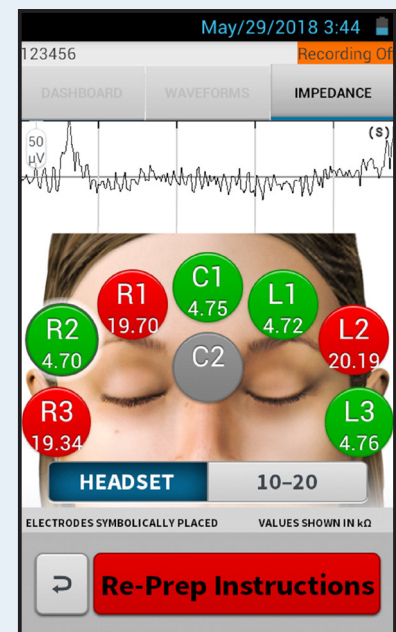

Figure 4-18:
- Red - The impedance value is unacceptably high (≥ 10 kΩ). Re-prepping is required before recording can continue. If red, then re-prep the area until acceptable. Press **RE-PREP INSTRUCTIONS** for assistance (Figure 4-18). (Refer to Chapter 7 for additional support troubleshooting impedance)